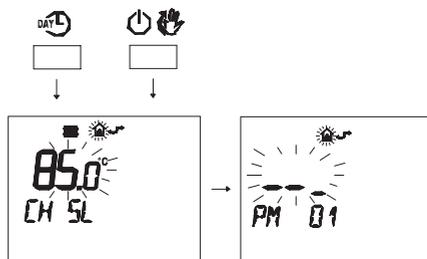

Fig. 7.29
- Press buttons DAY and P at the same time to enter transparent programming (Fig. 7.29).